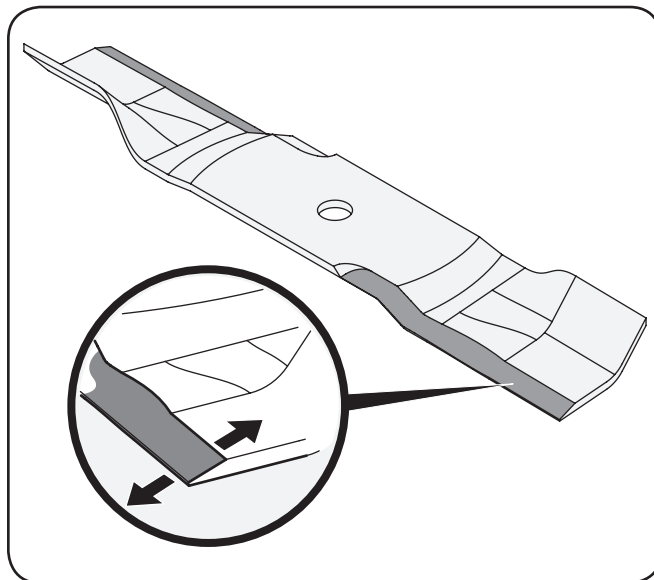

Figure 7-10
3. To properly sharpen the cutting blades, remove equal amounts of metal from both ends of the blades along the cutting edges, parallel to the trailing edge, at a 25°-30° angle. Always grind each cutting blade edge equally to maintain proper blade balance. See Fig. 7-10.